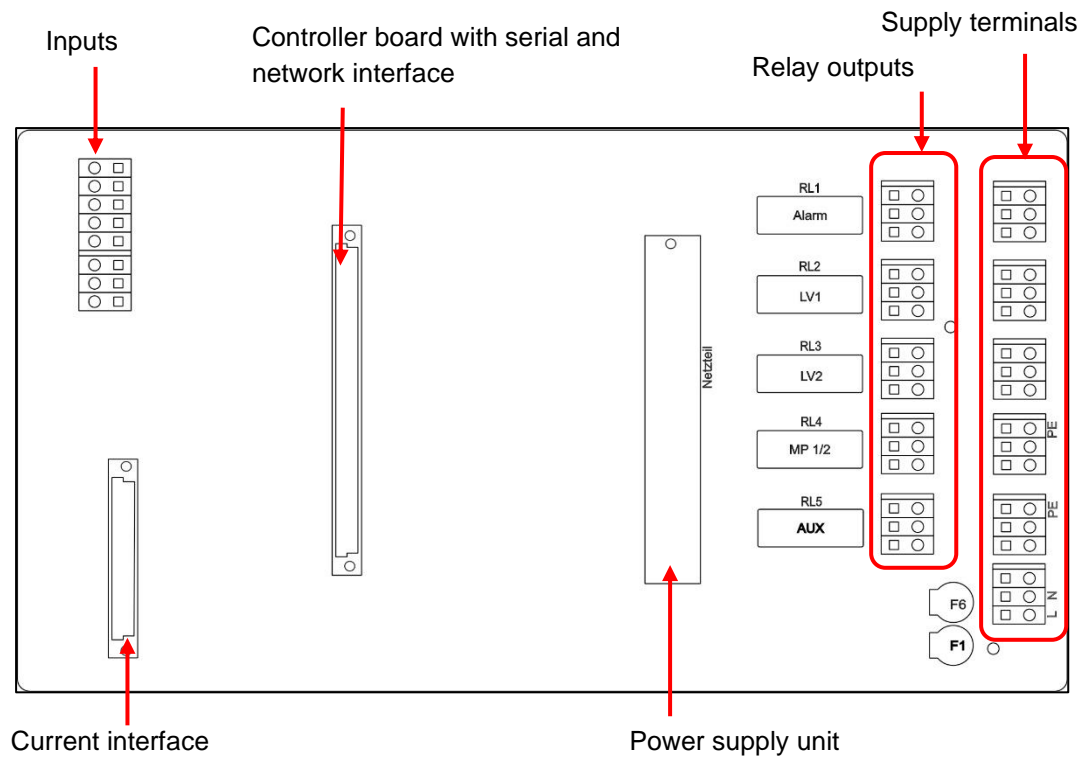

Figure 15
5. If the system components require mains power, connect the external switched mains voltage (l) to the root contact (1) of the respective relay (see connection example in figure 15).